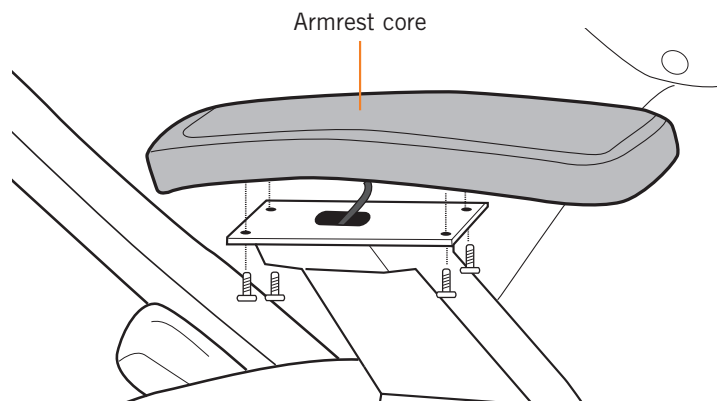

Fig.8
4. Secure the armrest core using the four screws and Allen wrench (provided) (Fig.8).